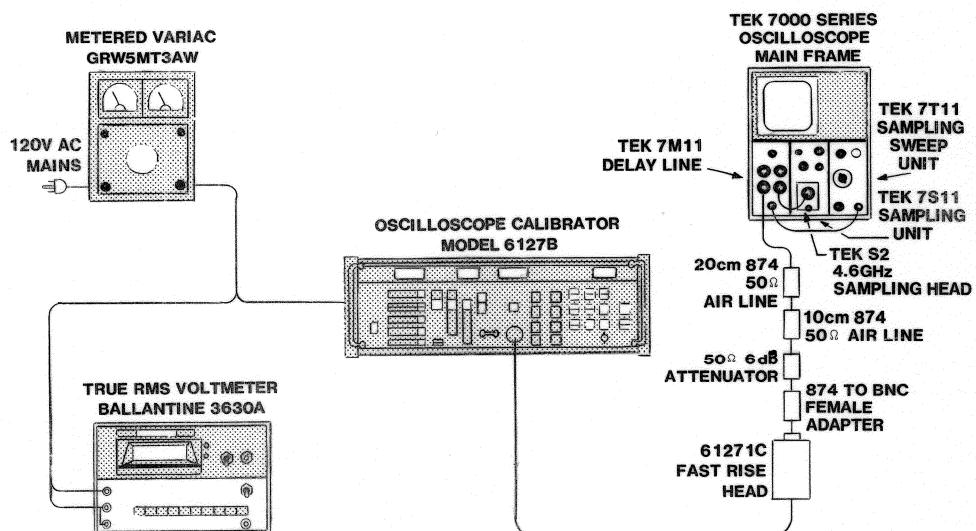

Figure 5-5a. FAST RISE PULSE Output Check, Test Set-Up (Preferred Test Set-Up)
Add attached Figure 5-5a.
K. The preferred test set-up uses a Tektronix 4.6 GHz sampling scope (7M11/7T11/7S11/S2) with a 7M11 delay line providing signal delay and an external trigger for the TTL (See Figure 5-5a). This set-up provides a faster display change scope sweep time to 100 ps/div. Observe that the displayed 10% to 90% rise time of the positive going edge is less than 276 ps. Measure the displayed rise time ($T_{display}$) and correct for the 7M11 delay line rise time ($T_{delay line} = 175$ ps) and the 7S11/S2 rise time ($T_{scope} = 75$ ps) by using the following formula
- b. Connect the 61271C OUTPUT BNC to the input of the Tektronix Model 7M11 delay line plug in. Connect the output of the delay line to the 4.6 GHz Model 7S11/S2 sampling head. Connect the delay line trigger output to the EXT TRIG input of the Model 7T11 sampling time base. Connect a 6 dB (X2) 50 ohm attenuator and 30 cm of GR874 50 ohm air line between the input of the 7M11 delay line and the 61271C to delay reflections away from the fast rise pulse and upper corner. See Figure 5-5a.